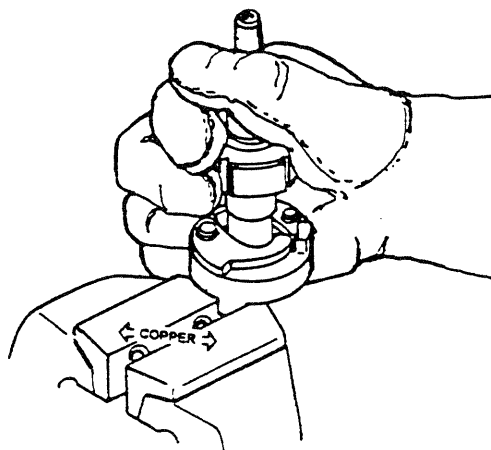

Figure 915. Winding Coupling Spring
- F. Engage recess in hub on cam assembly (11) with eye at inner end of spring. With eye engaged, rotate cam assembly slightly in direction to unwind spring to permit hub of cam to slip into inner loop of spring. Rotate cam in opposite direction, winding spring slightly, until trip dogs on edge of cam (11) clear over projections on body (9). Push cam assembly down into body, at the same time taking the screwdriver out.
- G. Insert a spare rotor with woodruff key installed in tapered portion, into cam assembly. See Figure 915. Turn magnet slightly in direction of coupling rotation (to wind spring). Lift rotor with cam only enough to clear trip dogs on body. Wind spring one half turn and re-engage cam assembly into body.